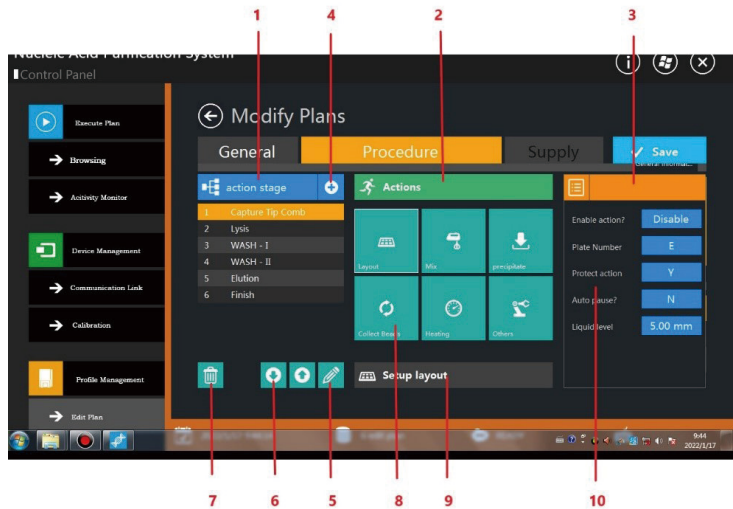

Figure 14. User Interface of Execution Plan Experiment Process Editor
Click the "Experimental Program" label in the execution plan editing interface. The system will present the experimental process editor of the execution plan, as shown in Figure 14. The experimental process editor of the execution plan consists three areas: the execution phase editing area, the main action selection area (Actions) and the action parameter setting area, as shown in ①, ② and ③ in Figure 14. The main functions of these three areas are shown in the Table 3 below: